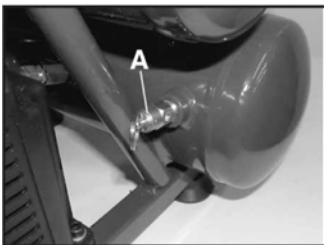

FIGURE 6
SAFETY PRESSURE RELEASE VALVE (A) FIG. 6
- 4) Pull ring on safety valve (A) Fig.6, allowing air to bleed from the tank until tank pressure is approximately 20 PSI. Release safety valve ring.
NOTE: If drain valve is plugged, pull ring on safety valve (A) Fig.6, and hold until all air pressure has been released. The drain valve can